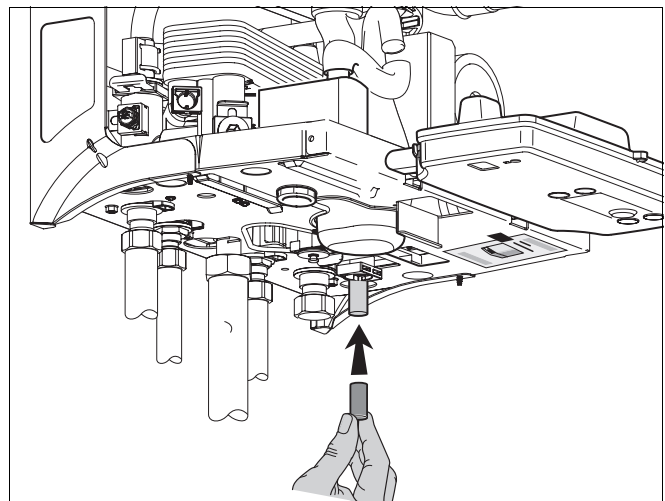

fig. 6 Insert pipe
- Insert the small piece of pipe (fig. 6).